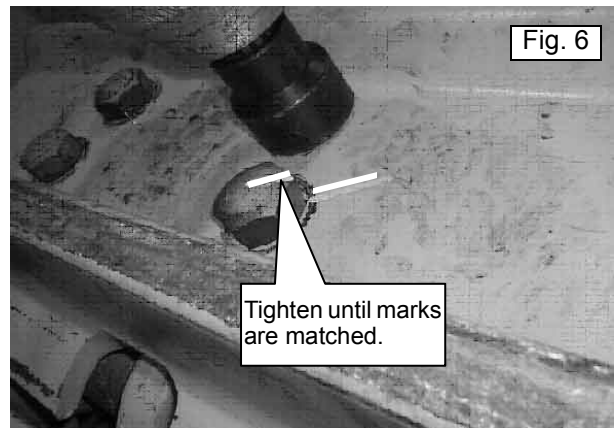

Fig. 6
2) Make a match mark at the hexagonal part of the bolt (Initial position and 180-degree position when turn the bolt). (Fig. 6)
3) Retighten with the hydraulic wrench (See "Field assembly tool list" in this manual). Fig. 6 (Tighten by $180 \pm 10^\circ$.)
[2] Set wooden blocks under the straight frame brackets on both sides. (Fig. 6)